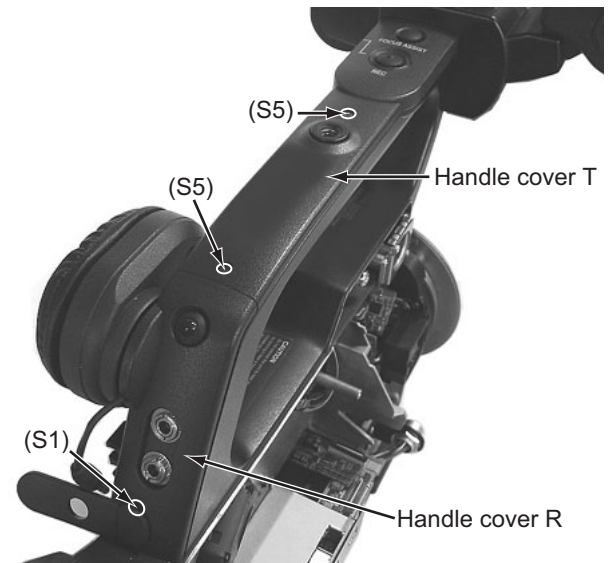
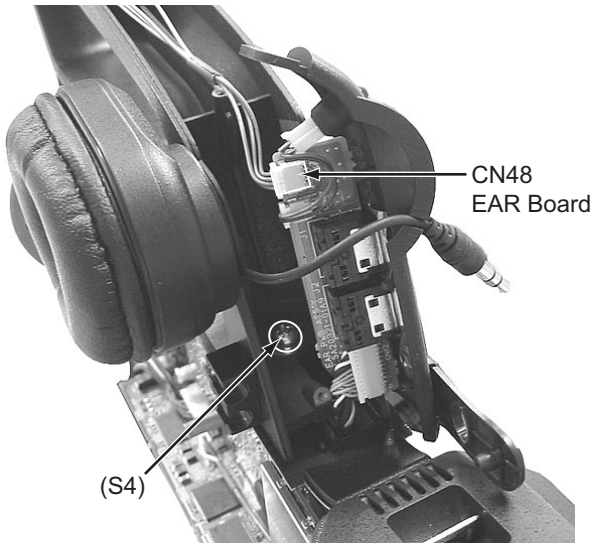
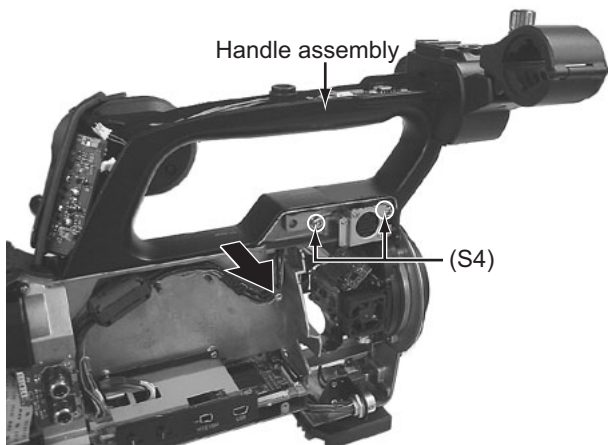
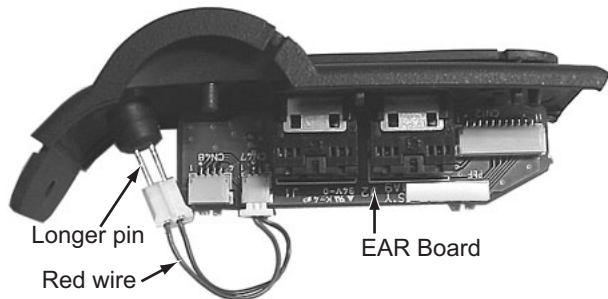

Fig.32
Fig.33
Fig.34
Fig.35
3.5 HOW TO REMOVE THE HANDLE ASSEMBLY (See figure 32, figure 33, figure 34 and figure 35)